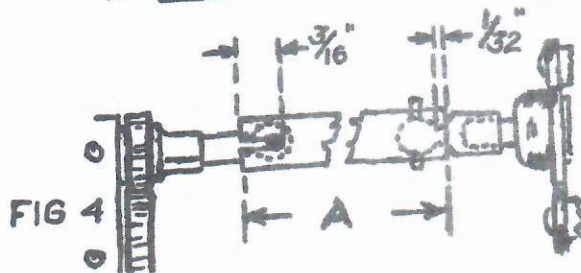
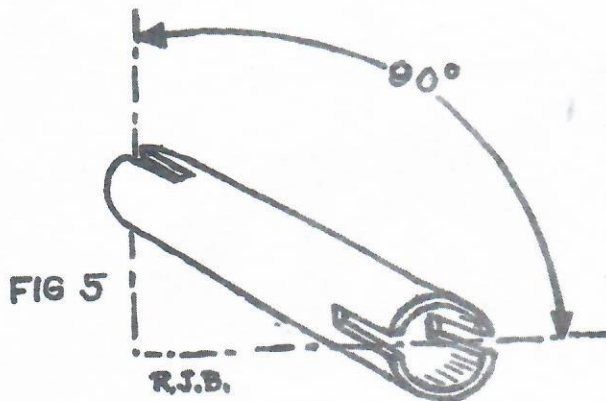

FIG 4
FIG 5
Now put the motor in the frame. Place power truck in the sideframes and attach to the floor plate, so that we may take a measurement of the distance (A) in Fig. 4. Make sure that you measure about 1/32" passed the ball on both sides, as shown in Fig. 4. Now cut the tube to measured length with a fine saw and clean the burrs with a small round file. We now proceed with the filing of the slots. Clamp tube in a vise and take a flat file, 1/16" thick, using the edge for making a slot about 3/16" deep on both sides. Make sure the slots are 90 degrees from each other as in Fig. 5. Now slip tube on motor end and loosen power truck and slip the other end onto the ball. Attach power truck to floor plate and your unit is ready.